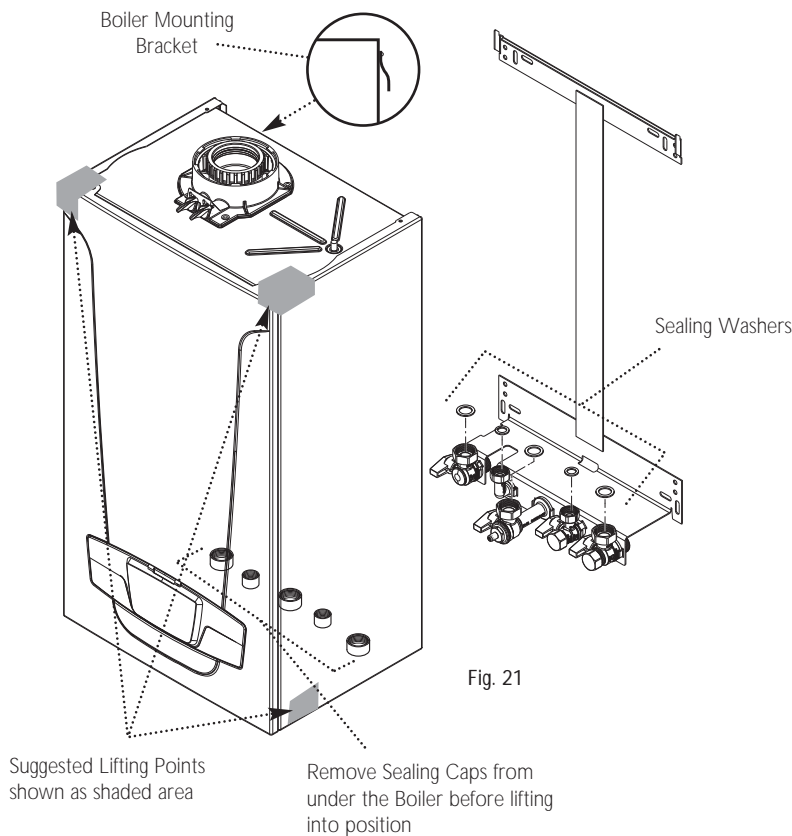

Fig. 21
2. Lift the boiler as indicated by the shaded areas. The boiler should be lifted by TWO PEOPLE. Engage the mounting bracket at the top rear of the boiler on the wall plate (Fig.21) (see **Safe Manual Handling** page 5).